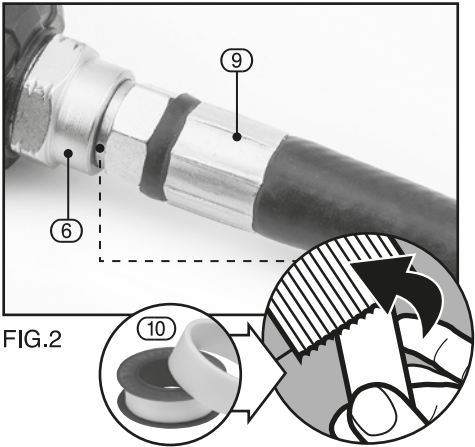

FIG.2
8.3 CONNECTION TO THE AIR SUPPLY – FIG. 2